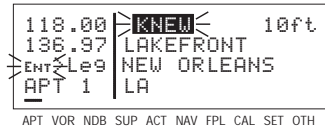

Figure 4-99
- Press **[ENT]**. A waypoint page for the identifier just entered will be displayed on the screen (figure 4-99). If a mistake was made and the wrong waypoint identifier was entered, press **[CLR]** and begin again. If no mistake was made but the waypoint identifier just entered isn't in the data base, a page allowing creation of a user defined waypoint will appear on the screen. Refer to section 5.2.1 for instructions on how to create a user-defined waypoint.